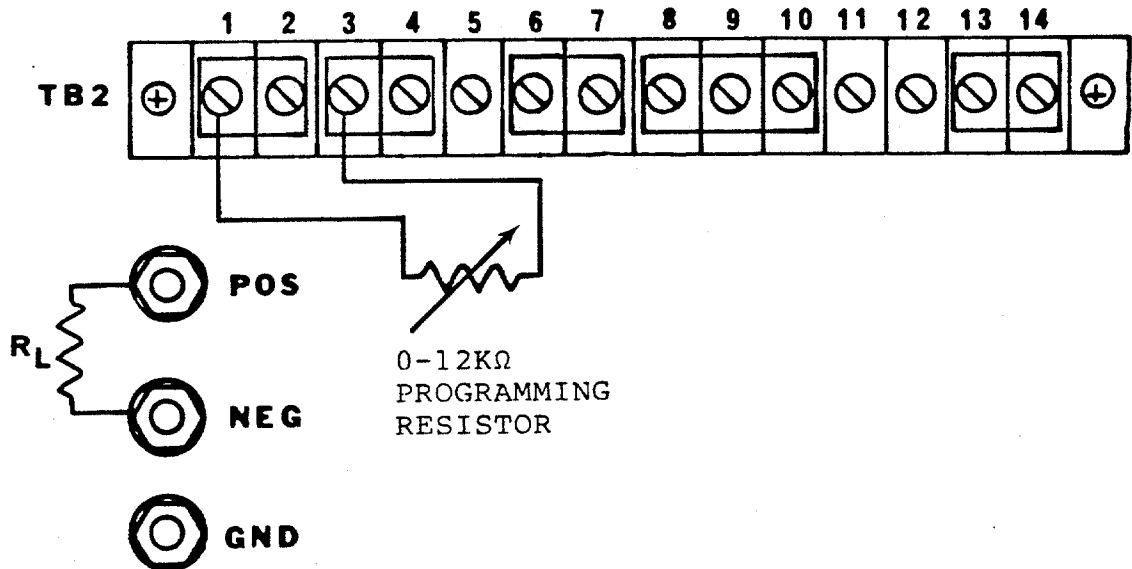

Figure 3-4. Remote Resistance Programming of Output Voltage
(1) External Voltage Programming Using Resistance. The resistance coefficient for remote voltage programming is $12k\ \text{ohms} = 100\%$ of rated output voltage. The programming current from terminal TB2-3 is factory set to 3.333 mA. If multiple switches or relays are used to program different levels, make-before-break contacts are recommended. See figure 3-4 for strapping requirements.